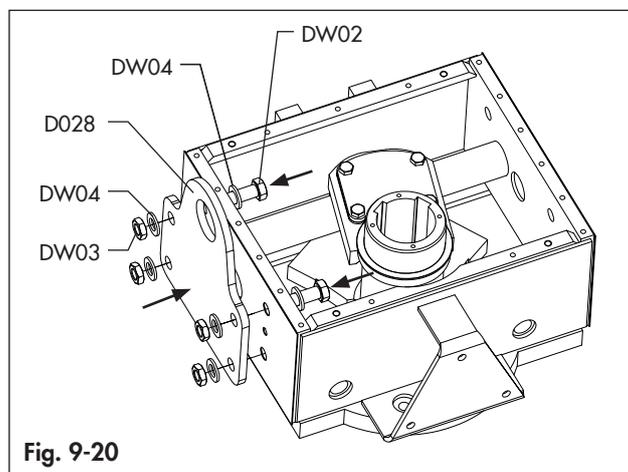

Fig. 9-20
- For DOUBLE ACTING actuators, place the flange (D028) screwing the bolts (DW02) along with the washers (DW04) and nuts (DW03) after applying the threadlocker Loxeal 83•21 or equivalent. (Fig. 9-20)